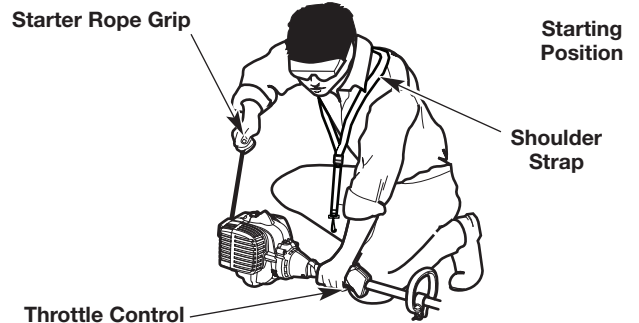

Fig. 15
**WARNING:** Avoid accidentally starting the unit. To avoid serious injury, the operator and the unit must be in a stable position when pulling the starter rope (Fig. 15).
3. Put the shoulder strap over the operator's head and onto the left shoulder (Fig. 15).
3. Crouch in the starting position (Fig. 15).
5. Pull the starter rope with a controlled and steady motion **5 times** (Fig. 15).